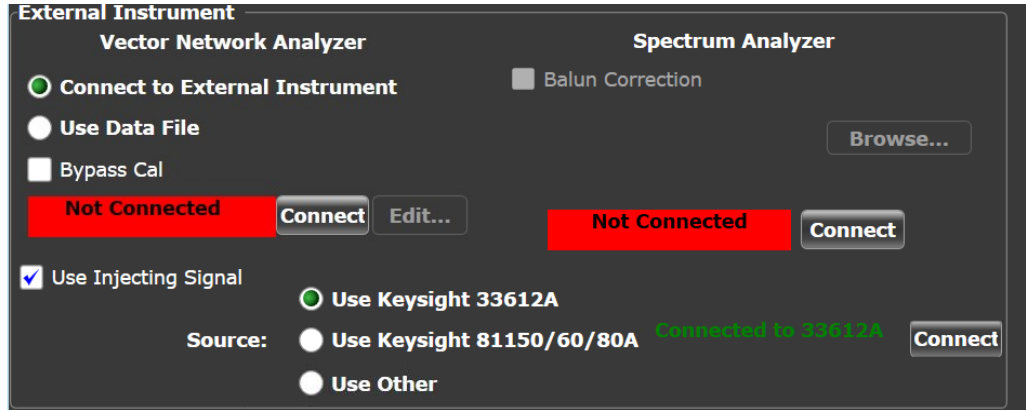

Figure 39 Connection status after the application detects the Injecting Signal Source
- 14 Once the 25GBASE-T Ethernet Test Application detects the Injecting Signal source, it is indicated on the **Set Up** tab as shown in Figure 39.